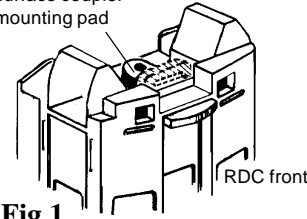

Fig.1
2. Modify rail diesel car end coupler pocket by cutting off bottom part of die cast metal coupler swing guide just below door. Be sure to cut flush with coupler mounting pad surface. File smooth and level. See Fig.1.